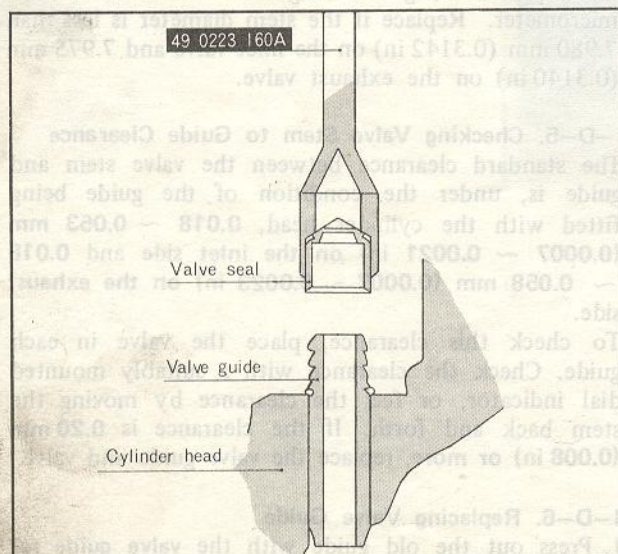

Fig. 1-15 Installing valve seal
3. Install the new valve seal onto the valve guide with the **valve seal pusher** (49 0223 160A), as shown in Fig. 1-15.